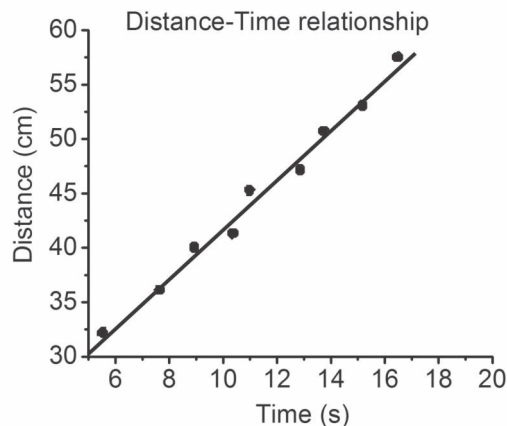

Fig. 2.5: A mean fit curve.
- vii) The curve drawn should be the simplest mean curve that fits the data. In the graph shown in Fig. 2.5, it is easy to see that the data points lie on a straight line. Note that the line may not necessarily pass through each observed point. However, it should pass through the region of uncertainty for each point.